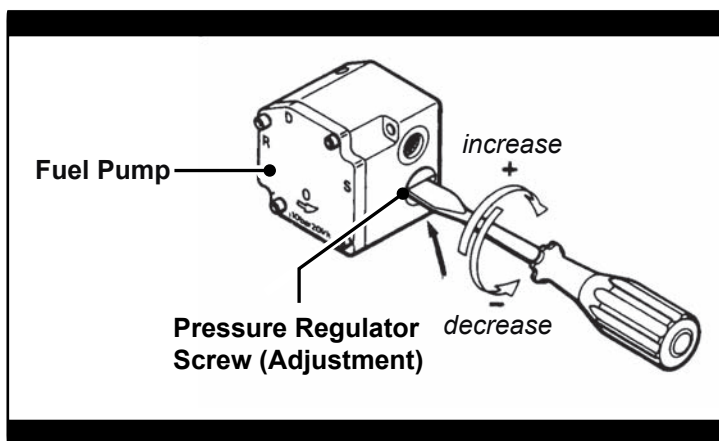

Figure 21
A: A *Fuel Pressure Gauge* (reference Section 11 for special tools information) is used to properly check the Fuel Pump's pressure setting; reference Figure 21. The *Fuel Pump* is preset to 145 psi (the pressure required for proper fuel atomization at the *Fuel Nozzle*). Perform the following procedures to check for a proper fuel pressure setting.
1. Remove the *Fuel Nozzle* (reference Figure 17) and replace it with the *Fuel Pressure Gauge*; reference Figure 21.
1. Turn the "Diesel" switch **ON** and wait until a pressure reading registers on the *Fuel Pressure Gauge* (after approximately 10-25 seconds). Then, adjust the fuel pressure by simply turning the *Pressure Regulator Adjustment Screw* clockwise to increase fuel pressure or counterclockwise to decrease fuel pressure; reference Figure 21.